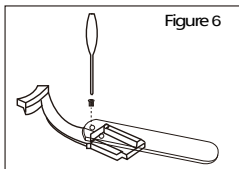

Figure 6
1.Align the holes on the T shaped part with the holes of the blades,then fasten the screws (See Figure 6).